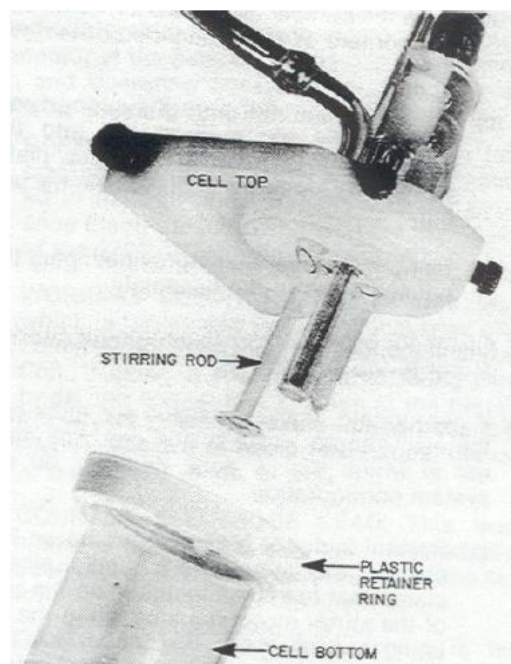

Figure 3: Completed Assembly
- (d) Insert the outgassing tube and the Teflon[®] sample-port stopper into the cell top as shown in Figure 3.
- (e) Rinse the Reference Electrode and Counter Electrode Bridge Tubes with distilled or deionized water. Then insert the bridge tubes into the appropriate cell top openings (Figure 3) and fill the bridge tubes with appropriate electrolyte. **NOTE:** The bridge tube frits become wetted for the first time in this step. Do not allow them to dry out.